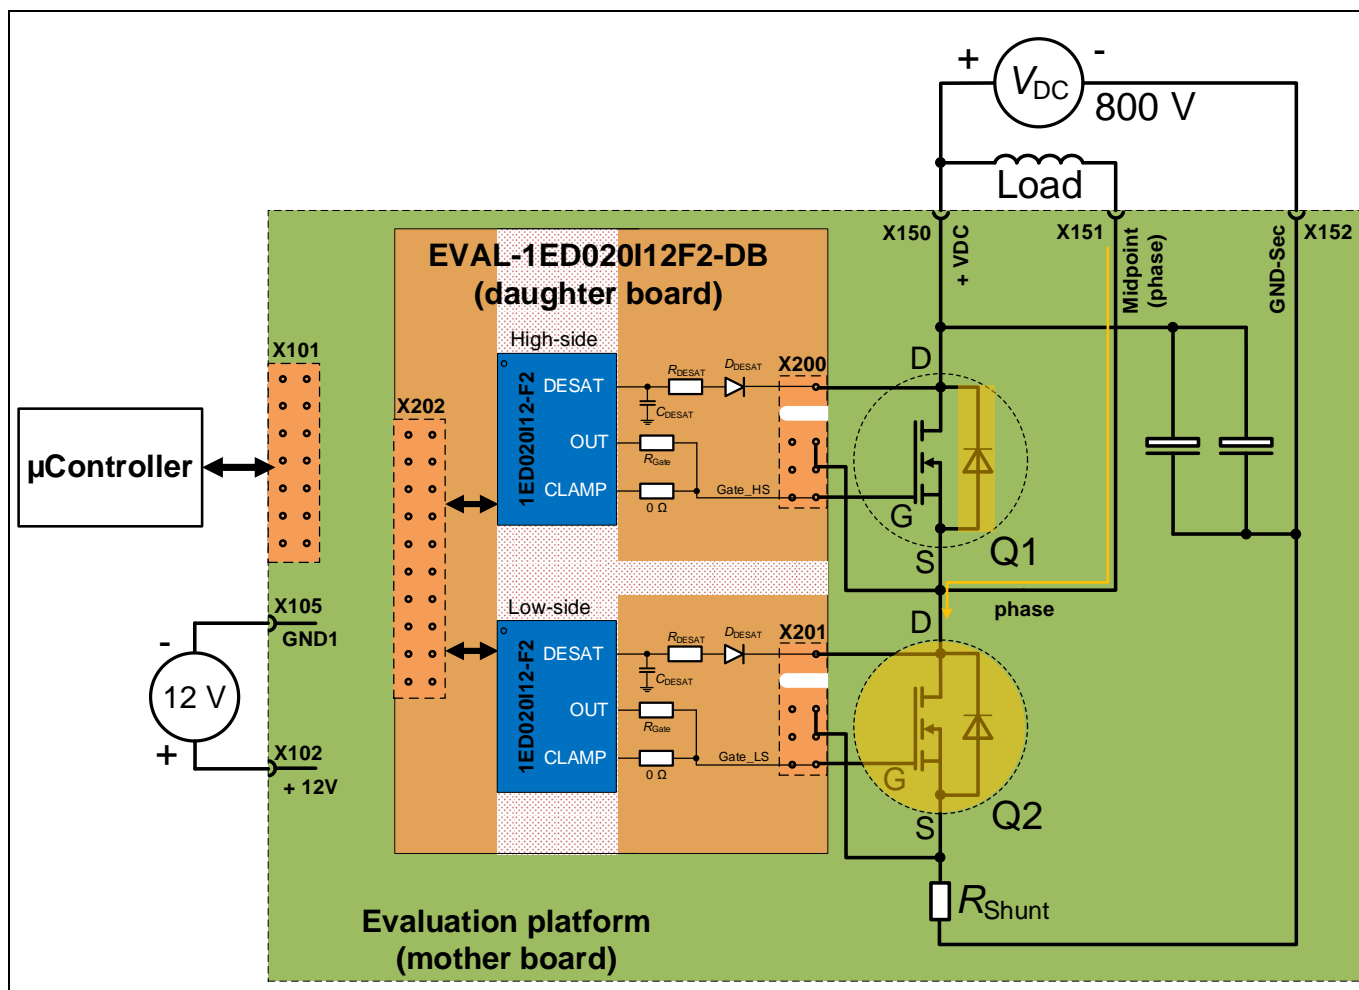

Figure 7 Motherboard equipped with daughterboard and SiC MOSFET's for low-side measurements
Please note that the entire evaluation platform was designed for double-pulse tests and short-circuit tests only. The evaluation platform is unsuitable for long-term tests, as the power switches are not soldered. Figure 7 presents a possible configuration of this combination of mother- and daughterboard.
- 2.) Connect 12 V corresponding to Figure 7
- 7.) Connect 12 V and μ Controller interface (or other 5 V-compatible digital switching signals) to connector X101 (see Figure 7)